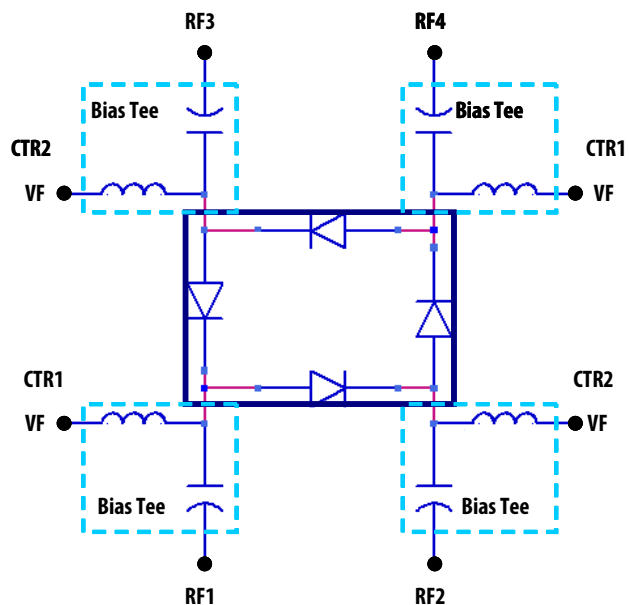

Figure 7. A diagram showing the application circuit for Diversity Switch using HSMP-389D.
4. Measurement obtained using the demoboard described in Figure 7 & 8.